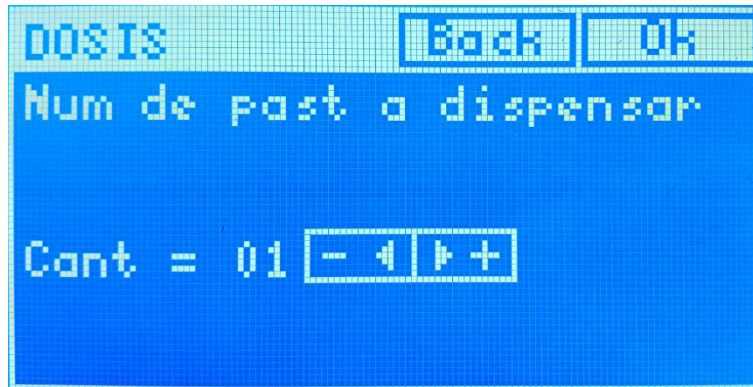

Figure 12- Screen of the number of pills to be dispensed
7. Enter the number of pills to be dispensed using the →, ← buttons (Figure 12) and press the **Ok button** to advance to the next screen.